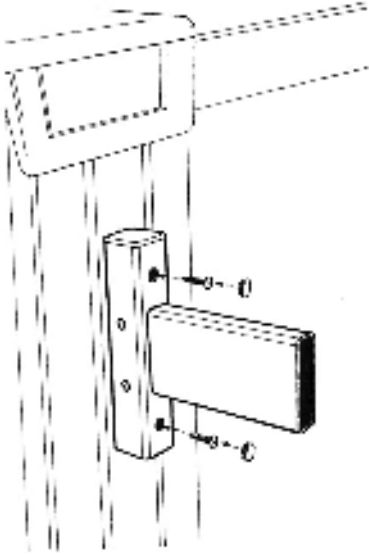

Fig. 2
2. Install mounting brackets. One mounting bracket should be attached to each of the pool's uprights. Brackets should be attached so that there is a **maximum** of 4" between the pool's top-rail and the bottom rail of the fence. *See Fig 2*